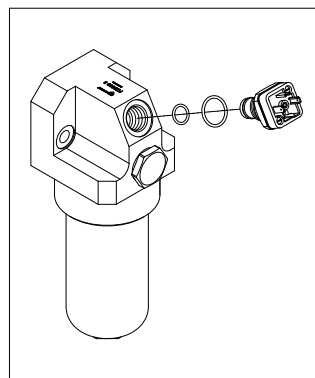

fig. 17
- (Fig. 17) Replace the O-rings of the indicator body